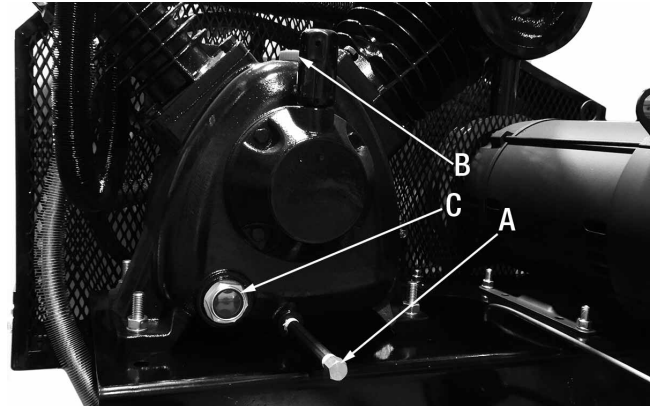

FIGURE 11
(A) Fig.11. Drain oil and replace oil drain bolt. To fill the crankcase with oil, first unscrew and remove oil fill cap (B), pour air compressor oil (approx. 1.9 litres of SAE 30 weight non-detergent oil) into oil opening until the oil level reaches the red dot at the centre of the oil sight glass (C). Reinstall the fill cap (B).